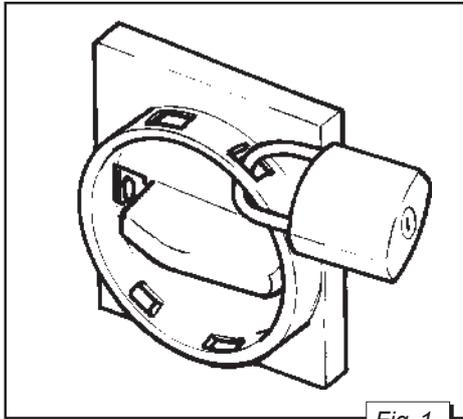

Fig. 1
**Before performing any maintenance operation, lubricating parts, replacing spare parts or cleaning machine equipment, it is strictly necessary to disconnect your machine from the power supply using the main switch on the front side of the electric panel (set it to 0) and padlock the main switch (see fig. 1). The main switch lock key should be exclusively given to a maintenance operator (duly skilled, trained and authorized to service your machine). Afterwards power cords and pneumatic air supply pipes should be disconnected.**